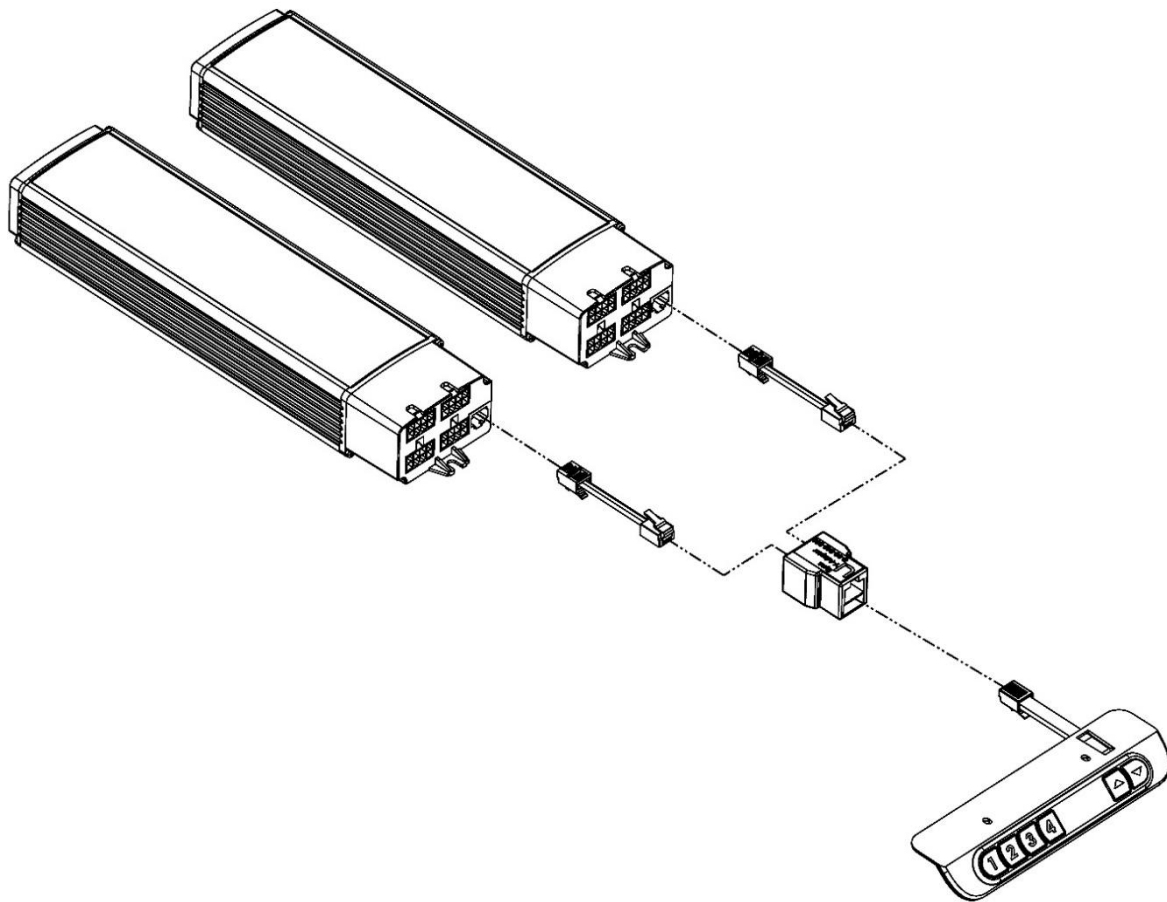

Figure 26: Assembly of linking controller system more than four lifting elements
- ➔ The complete assembly of this linking controller system with more than 4 lifting elements is shown at the next page in Figure 26